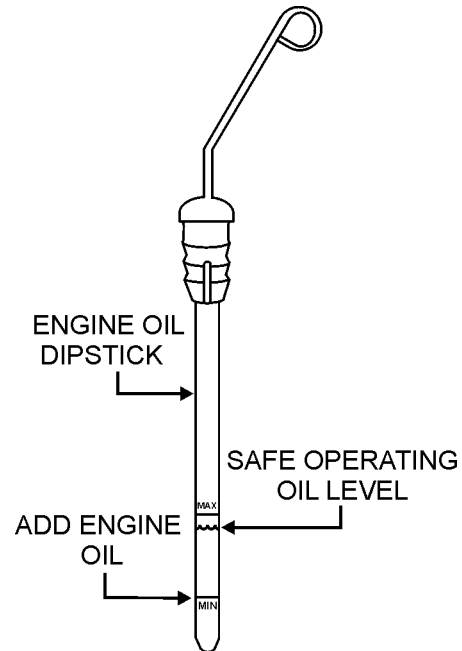

Figure 7. Engine Oil Dipstick
3. Re-Insert dipstick (Figure 7), then remove dipstick from its holder. Check the oil level shown on the dipstick.